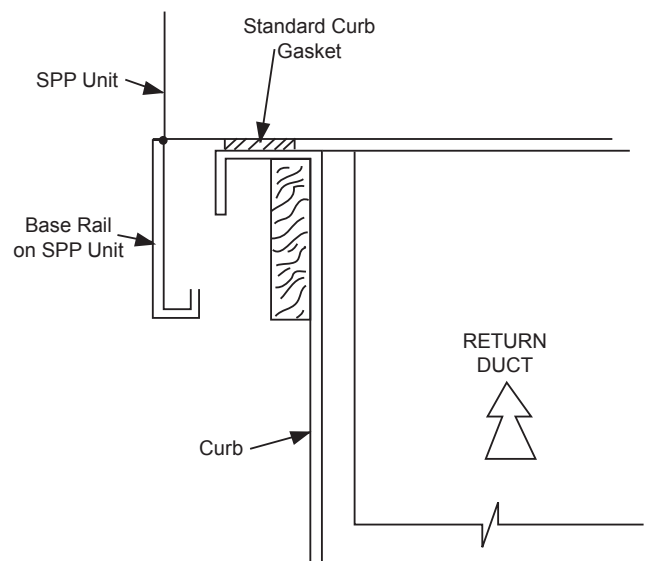

FIG. 10 - Side View Detail
2. After supply and return duct has been installed, place the standard 1/4" thick gasketing around the outer perimeter of the roofcurb and around duct openings in curb, see Fig. 10.